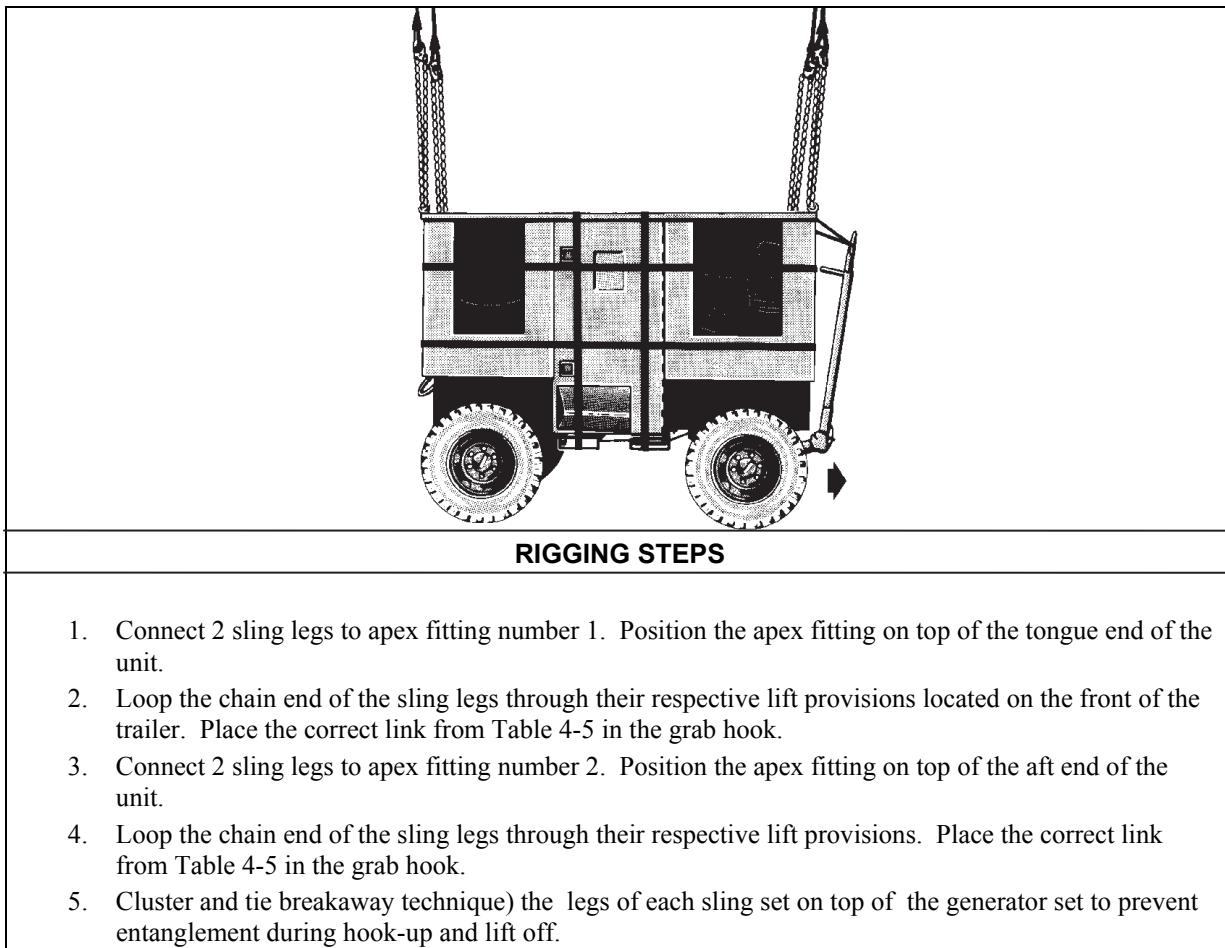

Figure 4-5. Aviation Ground Power Unit
- **Rigging.** Rig the load according to the steps in Figure 4-5.